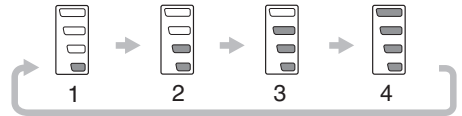

Fig. 15
- (1) High / Low mode selector switch (Fig. 15)